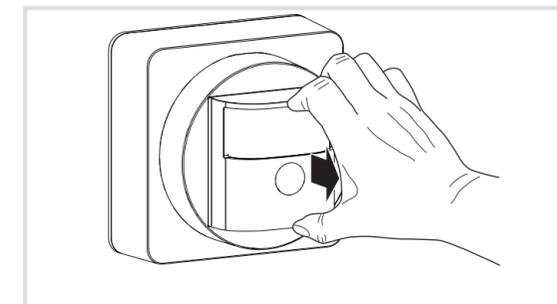

Figure 7: Dismantling of cover
- Remove cover by hand (Figure 7)